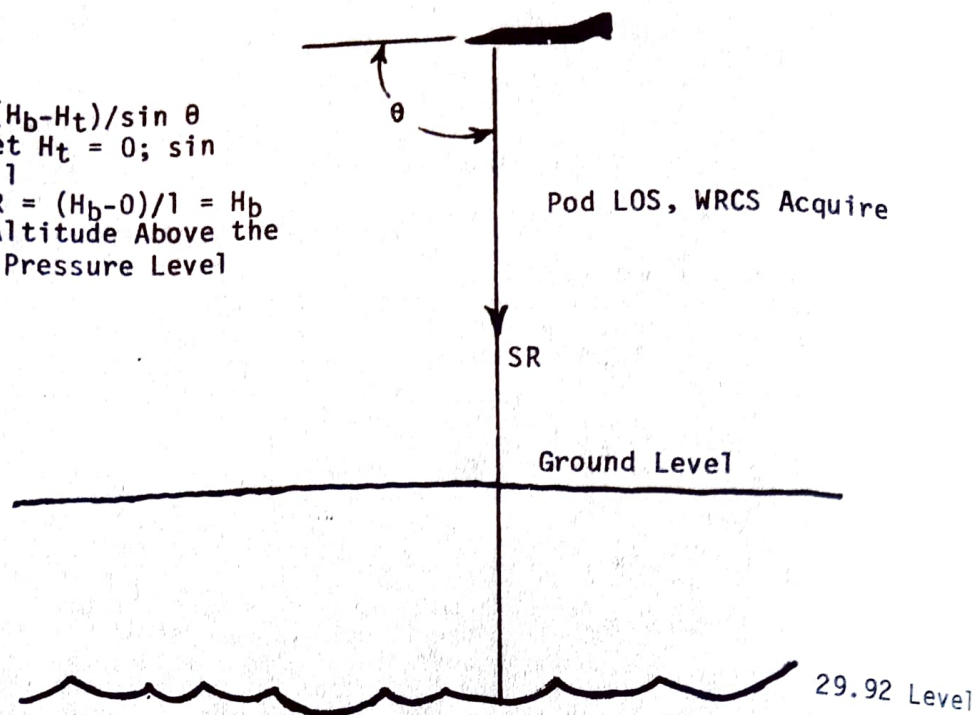

Figure 36, CADC Check
a. CADC check. This procedure compares the SR computation in WRCS ACQ to the pressure altimeter in the aircraft. If the SPIKE system is set up in the following manner, the SR readout on the SRI is routed through the INS and the Output Signal Distribution Unit (OSDU), but originates in the CADC (Figure 36). The WSO selects WRCS ACQ, this slaves the pod LOS to nadir. The target altitude window is set to zero and 29.92 set in the aircraft pressure altimeter. As shown in the figure, SR is equal to the aircraft altitude above the 29.92 level. Therefore, the SR readout should equal the altitude in the pressure altimeter if it is set to 29.92. In properly calibrated systems these readings usually agree within 100 feet. Since there is some slop in each system, 75 feet scale error allowable in the pressure altimeter, and a 200 foot tolerance in the SRI BIT check, it is recommended that the system be written up if the difference exceeds 300 feet. Most errors have been traced to the CADC output voltage to the OSDU.